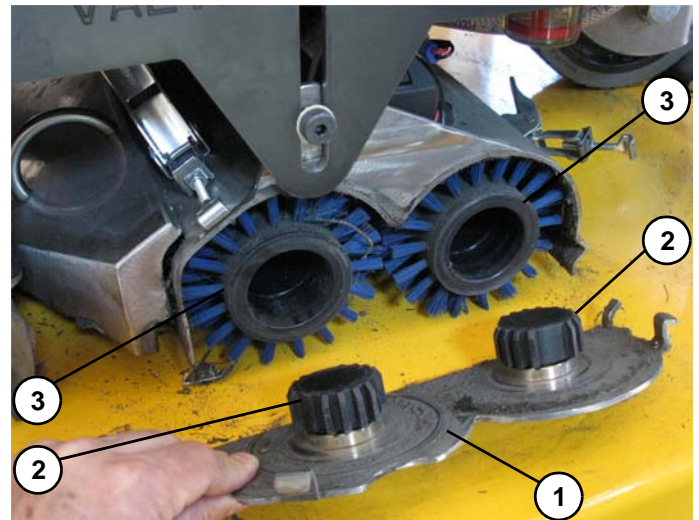

Figure 5-18
4. Remove the cover (1, **Figure 5-18**) by disengaging the supports (2) from the cylindrical brushes (3).